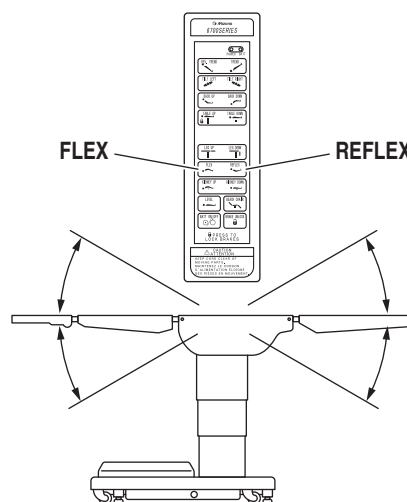

Figure 2-12. Flex/Reflex Positioning
**g. Flex Positioning** To place the table top in a flex position from horizontal, press the FLEX button (figure 2-12). To return the table top to a horizontal position or into a reflex position, press the LEVEL or REFLEX button.